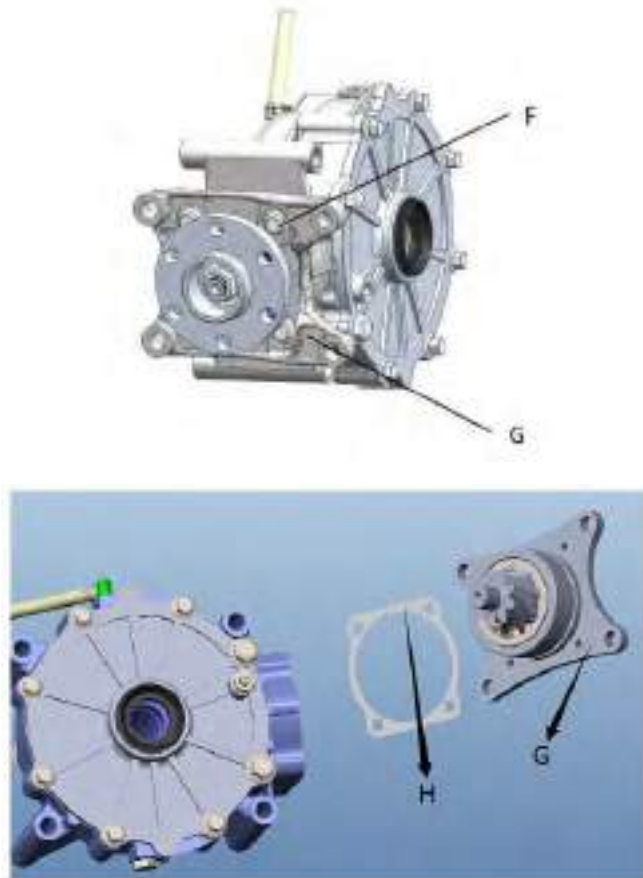

Fig 3
2. Remove the four bolts M8×35 **F** , the drive bevel gear assembly **G** and the adjust shim **H**. →Fig 3